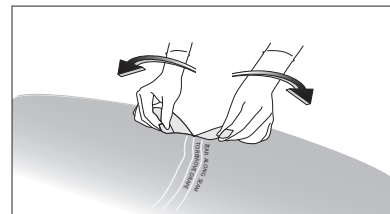

Figure 15
- Tear along seam to remove drape (refer to Figure 15).